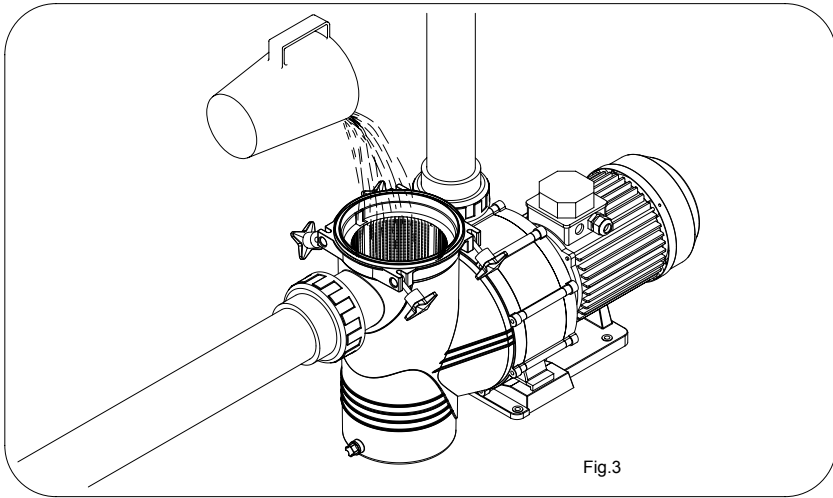

Fig.3
- For the pumps correct working, you must prime the pump pre-filter until water dips into the suction tube (Fig.3).
- Under no circumstances should pumps work without previously having filled the pre-filter with water. If this is not done, the mechanical joint could be damaged thus producing water loss through this (Fig.3).